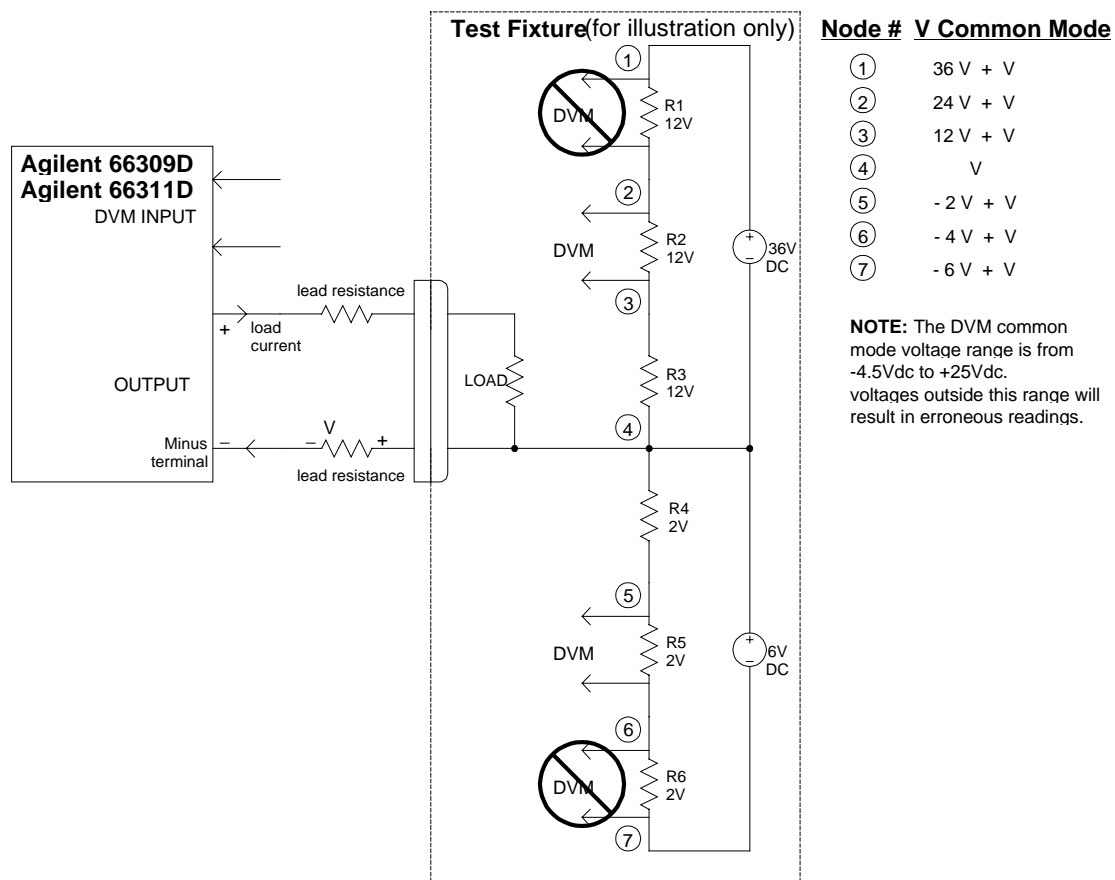

Figure 3-8. Measuring Circuits Not Powered by the Main Output
Because the measurement circuits of the DVM are internally referenced to the minus terminal of the main output, you must observe the following restrictions in order to guarantee accurate DVM measurements (refer to figure 3-8).
- ◆ You cannot measure voltages greater than +25 Vdc with respect to the negative terminal of the main output. A situation where this could occur is illustrated by R1 in figure 3-8, which has only a 12 Vdc drop across it but is 36 Vdc + Vlead with respect to the negative terminal of the main output.
- ◆ You cannot measure voltages less than -4.5 Vdc with respect to the negative terminal of the main output. A situation where this could occur is illustrated by R6 in figure 3-8, which has only a -2 Vdc drop across it but is -6 Vdc + Vlead with respect to the negative terminal of the main output.
- ◆ When calculating the common mode voltage between the point that you wish to measure and the negative terminal of the main output, you must also include any voltage drop in the negative load lead. For example, in figure 3-8, if the voltage drop in the negative load lead is 2 V, you would not be able to correctly measure the 12 Vdc drop across R2. This is because when the voltage drop in the load lead is added to the voltage drops across R2 and R3, the resultant voltage is 26 Vdc, which exceeds the +25 Vdc common mode rating of the DVM.